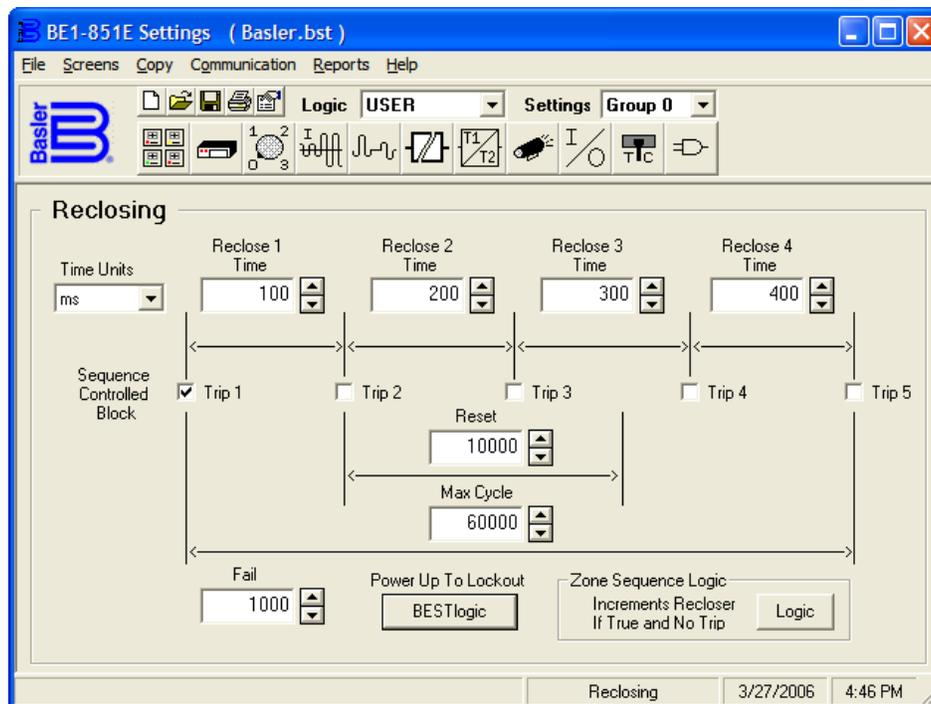

Figure 4-34. Reclosing Screen
Operating settings are made using BESTCOMS. Figure 4-34 illustrates the BESTCOMS screen used to select operational settings for the reclosing element. To open the screen, select *Reclosing* from the *Screens* pull-down menu. Alternately, settings may be made using the S<g>-79 ASCII command.
The 79RST is TRUE when the recloser is in the reset position. This setting can be changed on the *Reclosing* screen in BESTCOMS. See *Figure 4-34*.
*Max Cycle* is the reclose maximum operation time. If a reclose operation is not completed before the maximum operate time expires, the recloser goes to *Lockout*. This timer limits the total fault clearing and restoration sequence to a definable period. The timer starts when the first trip command is issued from a protective element of the relay. The Max Cycle timer stops when the recloser is reset. If the total reclosing time between *Reset* states exceeds the maximum reclose cycle timer setting, the recloser will go *Lockout*. If the WAIT input goes high during the Max Cycle timing sequence, Max Cycle timing will “pause” until the WAIT input goes low. If not desired, the Max Cycle timer can be disabled by setting it at zero. This setting can be changed on the *Reclosing* screen in BESTCOMS. See *Figure 4-34*.
The 79SCB output is TRUE when the breaker is closed, the 79 close output (79C) is TRUE, and the reclose sequence step is enabled with a non-zero value in the S#-79SCB command. A 0 (zero) disables the 79SCB output. This setting can be changed on the *Reclosing* screen in BESTCOMS. See *Figure 4-34*.